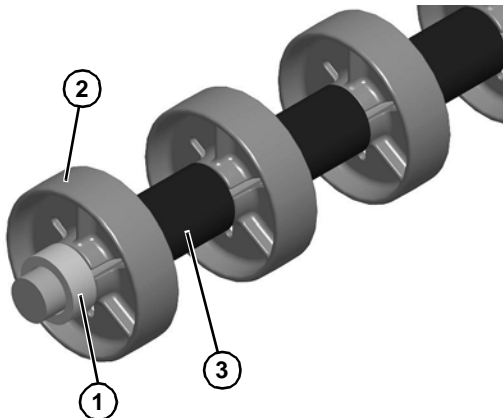

Figure 74
5. Remove spacer (**Figure 74, item 1**), rollers (**Figure 74, item 2**) and tube spacers (**Figure 74, item 3**) from shaft.